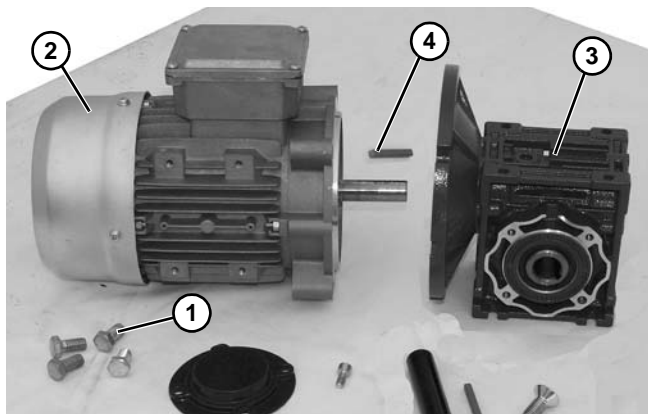

Figure 21
6. Remove four screws (**Figure 21, item 1**). Detach motor (**Figure 21, item 2**) from gear reducer (**Figure 21, item 3**). Retain shaft key (**Figure 21, item 4**).
- Apply anti-seize to motor shaft before assembling to gearbox. With key (**Figure 21, item 4**) in keyway, slide motor (**Figure 21, item 2**) and gear reducer (**Figure 21, item 3**) together. Install screws (**Figure 21, item 1**) and tighten.